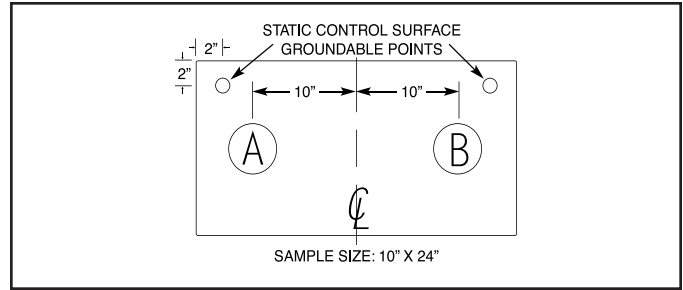

Figure 6. Material Evaluation Sample Configuration.
- Prepare a minimum of six samples of each material to be tested as shown in Figure 6.